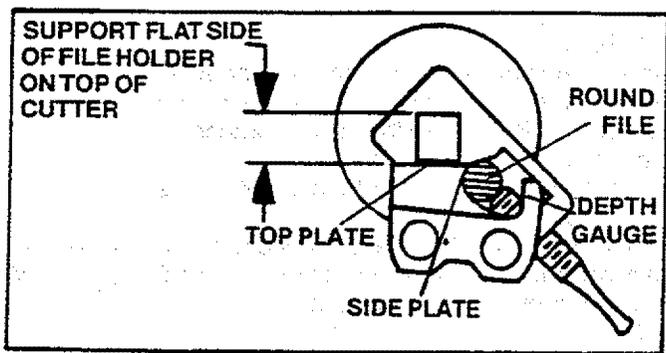

Figure 36
- a.) Position the file holder with the square rod on the top plate of the cutter as shown in Figure 36.